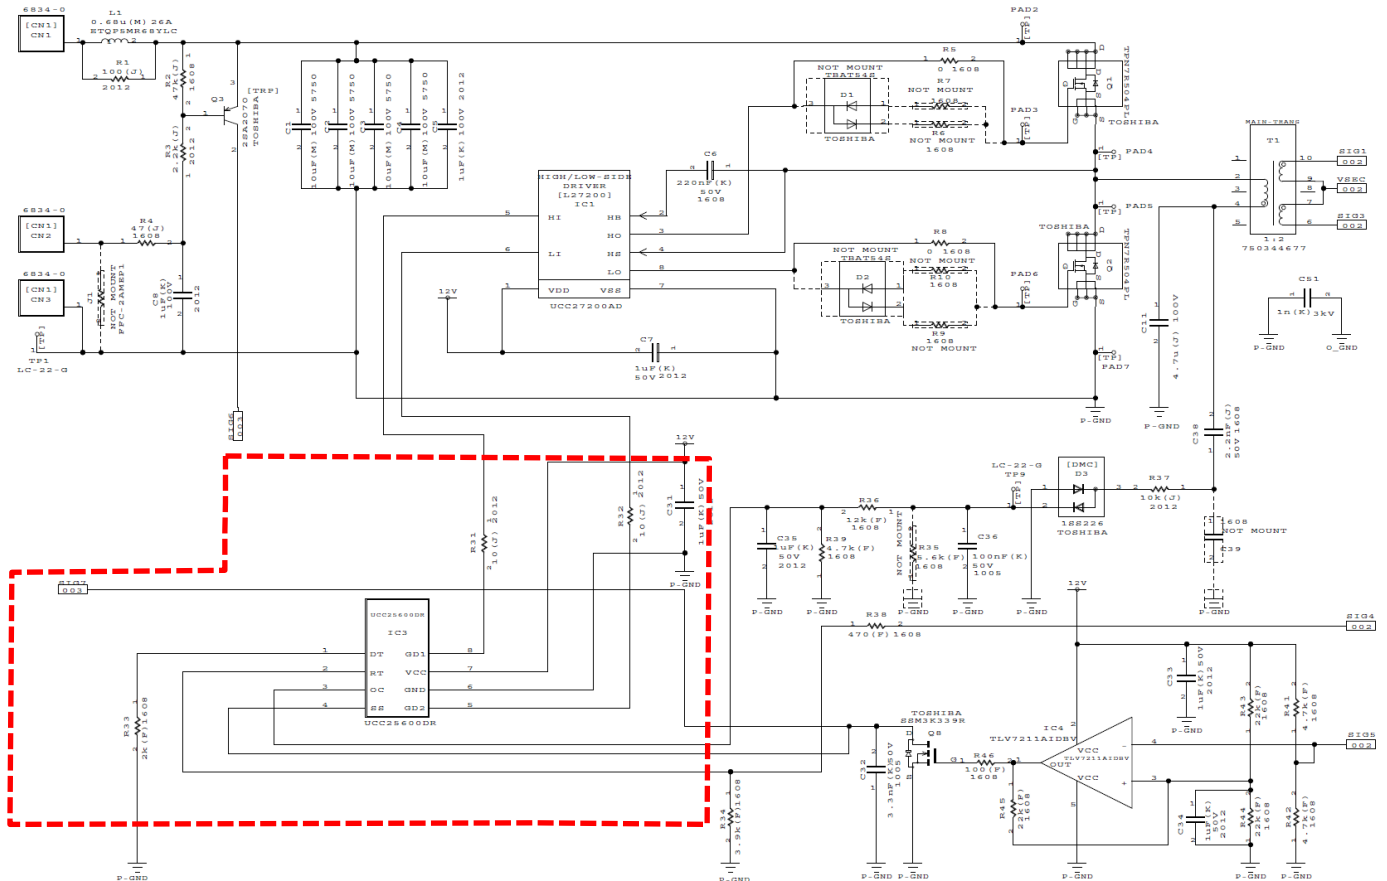
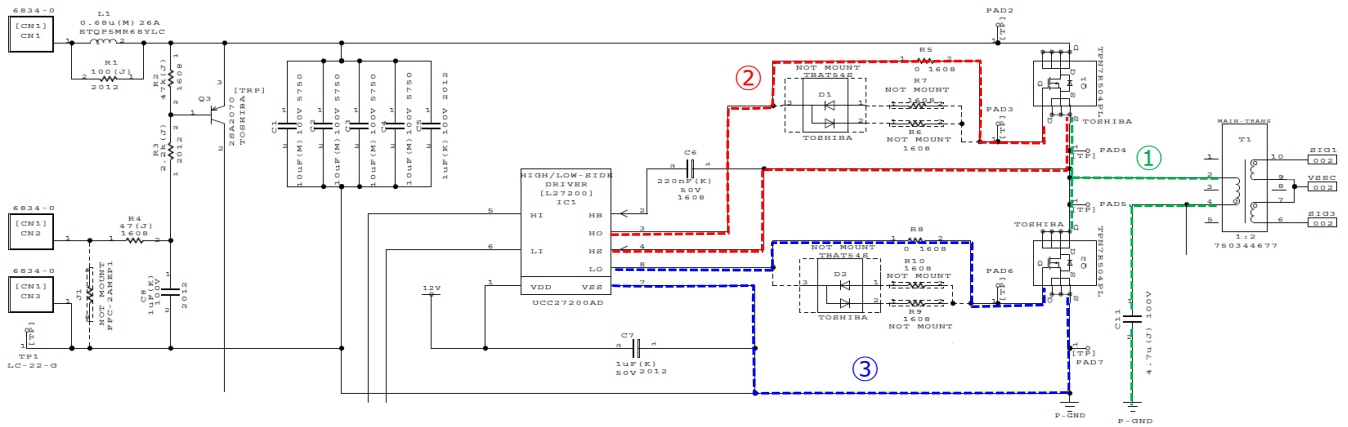
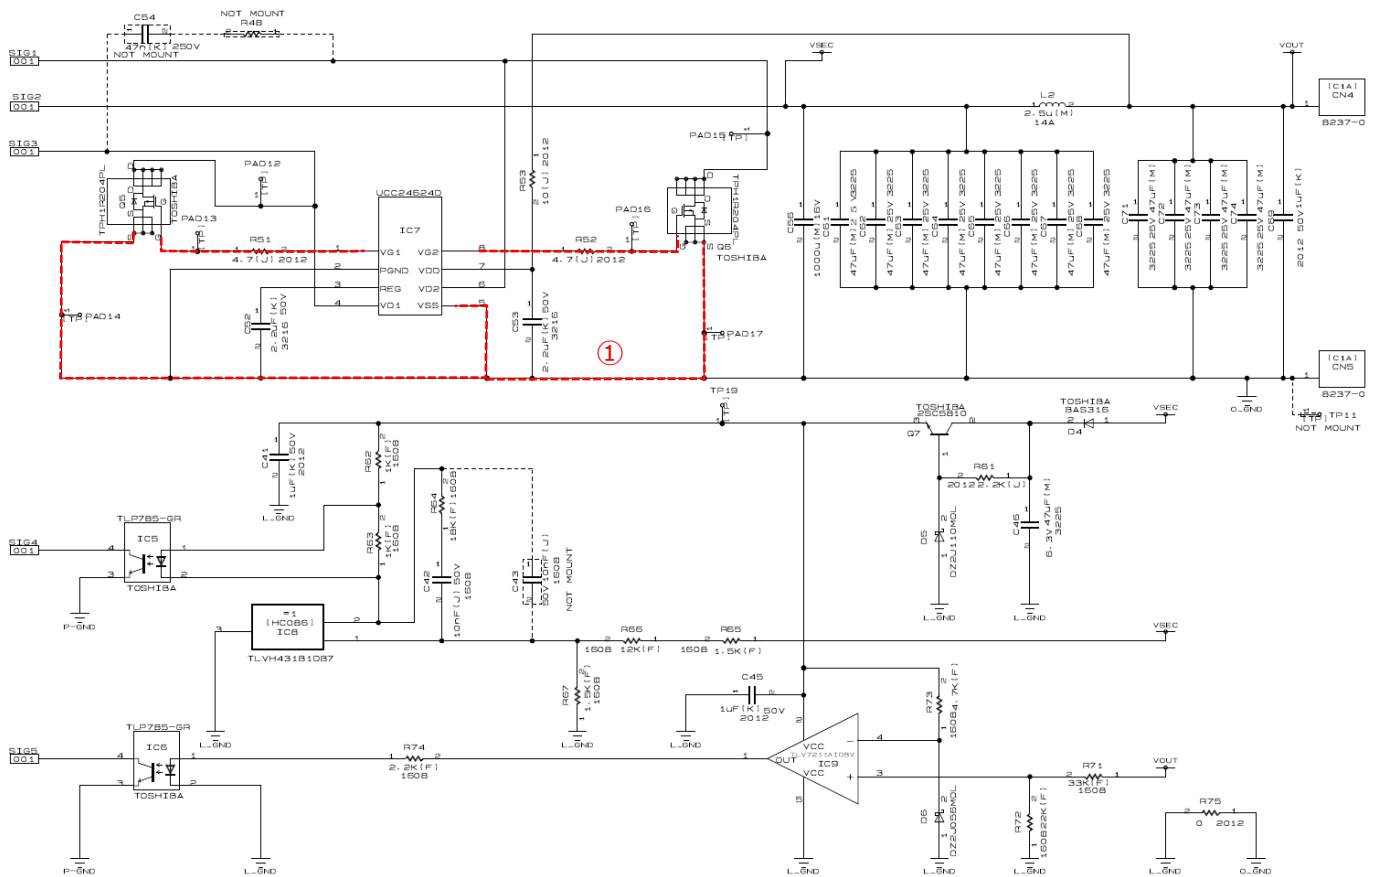

Fig. 3.1 LLC Circuit (around Controller)
Fig. 3.3 LLC Circuit Pattern Design Note 1
Fig. 3.4 LLC Circuit Pattern Design Note 2
This section explains precautions for PCB design around the LLC circuit. Fig. 3.1 shows the LLC circuit (around the controller), Fig. 3.3 shows LLC circuit pattern design note 1, and Fig. 3.4 shows LLC circuit pattern design note 2. For the layout around the controller, refer to the LLC controller data sheet, and related documents, etc.
2. The components inside the red dotted line shown in Fig. 3.1 should be located near the LLC controller.